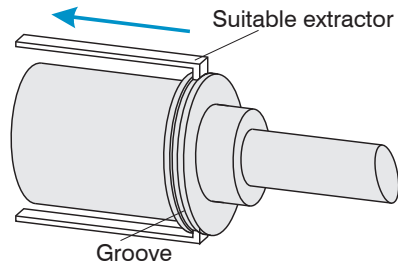

Fig. 8 Dismantling of an induSENSOR, EDS- ... -S model
► Use an suitable extractor for dismantling, see Fig. 8.